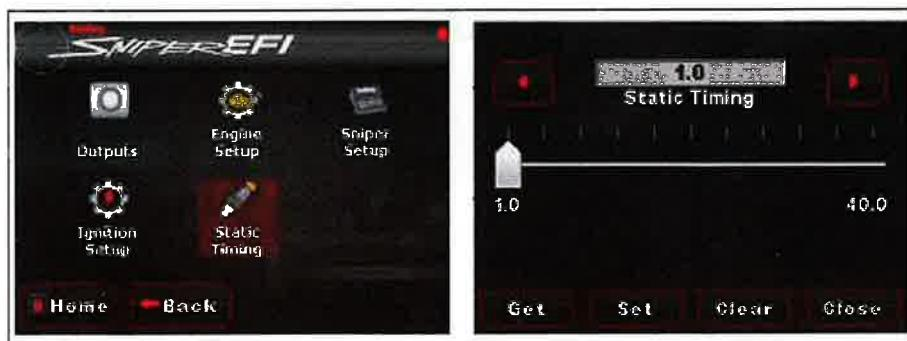

Figure 13
16. Once running, check the timing with a timing light and make sure it matches the commanded timing of the ECU. It is helpful to use the "Enable Static Timing Set" feature in the handheld, this feature can lock the timing to a single value. To find the Static Timing Menu, from the HOME SCREEN, select TUNING, then select SYSTEM. Static Timing will be the Bottom Right icon of this screen (**Figure 13**). Move the sliding bar to 15 Degrees, then press the SET Icon, this will command the engine to run at 15 Degrees of Ignition Timing.